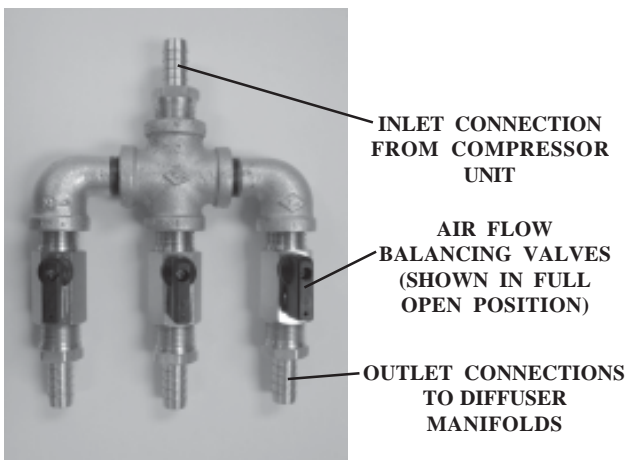

Figure 9b: Valve Manifold Assembly
3. Valve Connections: The valve assembly (See **Figure 9b**) distributes the flow of air from the compressor unit to the diffusers. Connect the poly tubing (4) coming from the compressor unit to the inlet of the valve assembly and fasten with a hose clamp (6). Connect the weighted tubing (1) that runs to each of the diffuser manifolds to a valve outlet and fasten with a hose clamp (3). The couplings (2 & 5) are used to connect multiple lengths of tubing. The valves are used to balance the flow evenly between all of the diffuser manifolds. Valves are closed when the handle is perpendicular to the valve body and full open when it is parallel to the valve body.